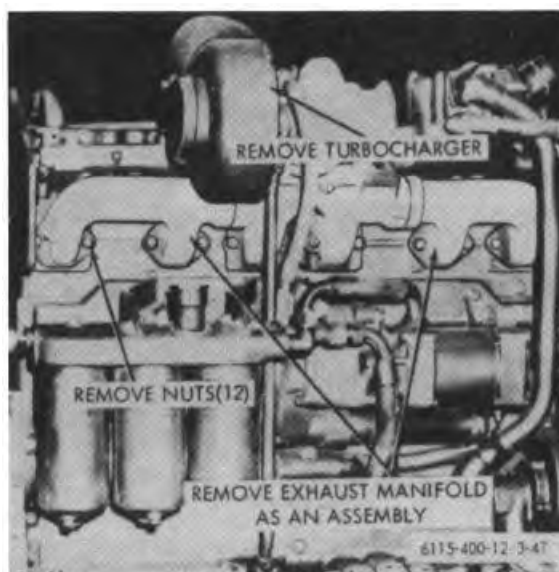

Figure 3-47. Exhaust manifold, removal and installation.
b. *Removal and Installation.* Refer to figure 3-47 and remove manifold.
- (1) Disassemble manifold as required.
- (2) Reassemble and install manifolds in the reverse order of disassembly.